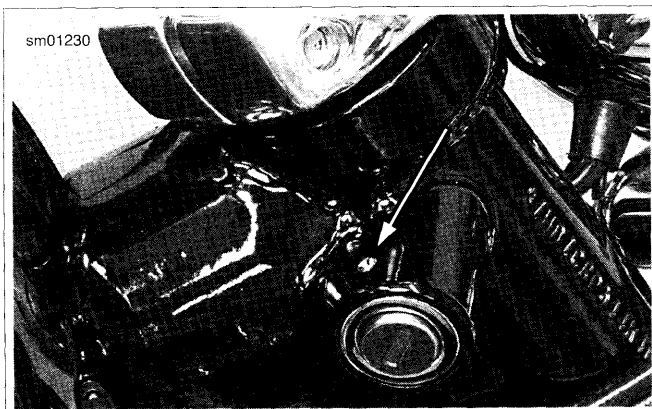
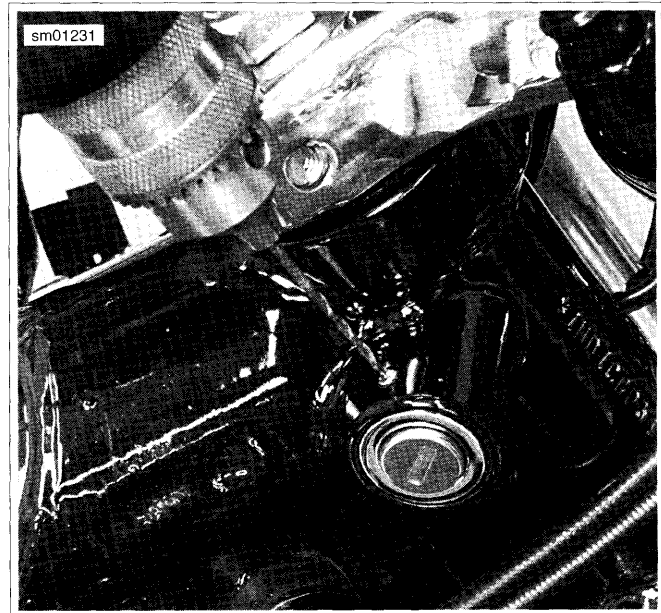

Figure 2-256. Fork Lock Pin
Figure 2-257. Drilling Lock Pin
4. See Figure 2-256. See Figure 2-257. Using a 5/64 in. drill bit, carefully drill a hole in the center of the lock pin.